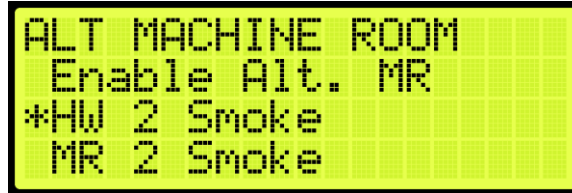

Figure 608: ALT MACHINE ROOM Menu – HW 2 Smoke
3. From the ALT MACHINE ROOM menu, scroll and select HW 2 Smoke (See Figure 608).